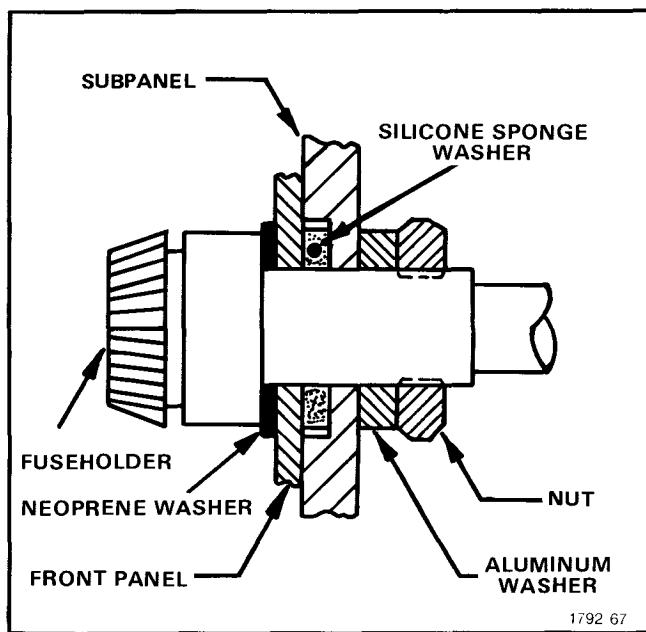

Fig. 5-13. Detail of Fuseholder installation.
14. Install Fuseholders in Front Panel (see Fig. 5-13)
1. Install the two Fuseholders as shown in Fig. 5-13.